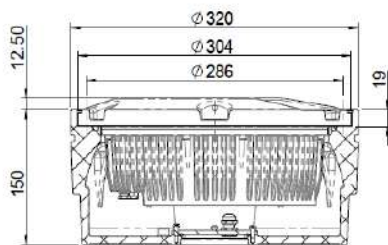

Figure 3-1
- On the 12 inches shallow base. (Figure 3-1).